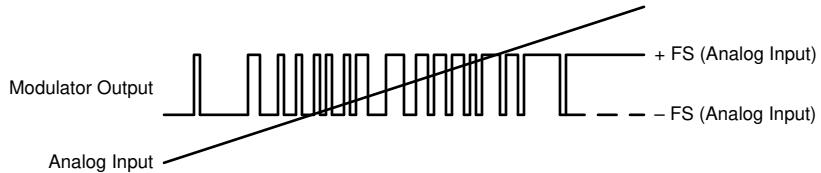

**图 7-3. OOK-Based Modulation Scheme**
The AMC3306M05 uses an on-off keying (OOK) modulation scheme, as shown in 图 7-3, to transmit the modulator output bitstream across the  $\text{SiO}_2$ -based isolation barrier. The transmit driver (TX) shown in the Functional Block Diagram transmits an internally generated, high-frequency carrier across the isolation barrier to represent a digital one and does not send a signal to represent a digital zero. The nominal frequency of the carrier used inside the AMC3306M05 is 480 MHz.